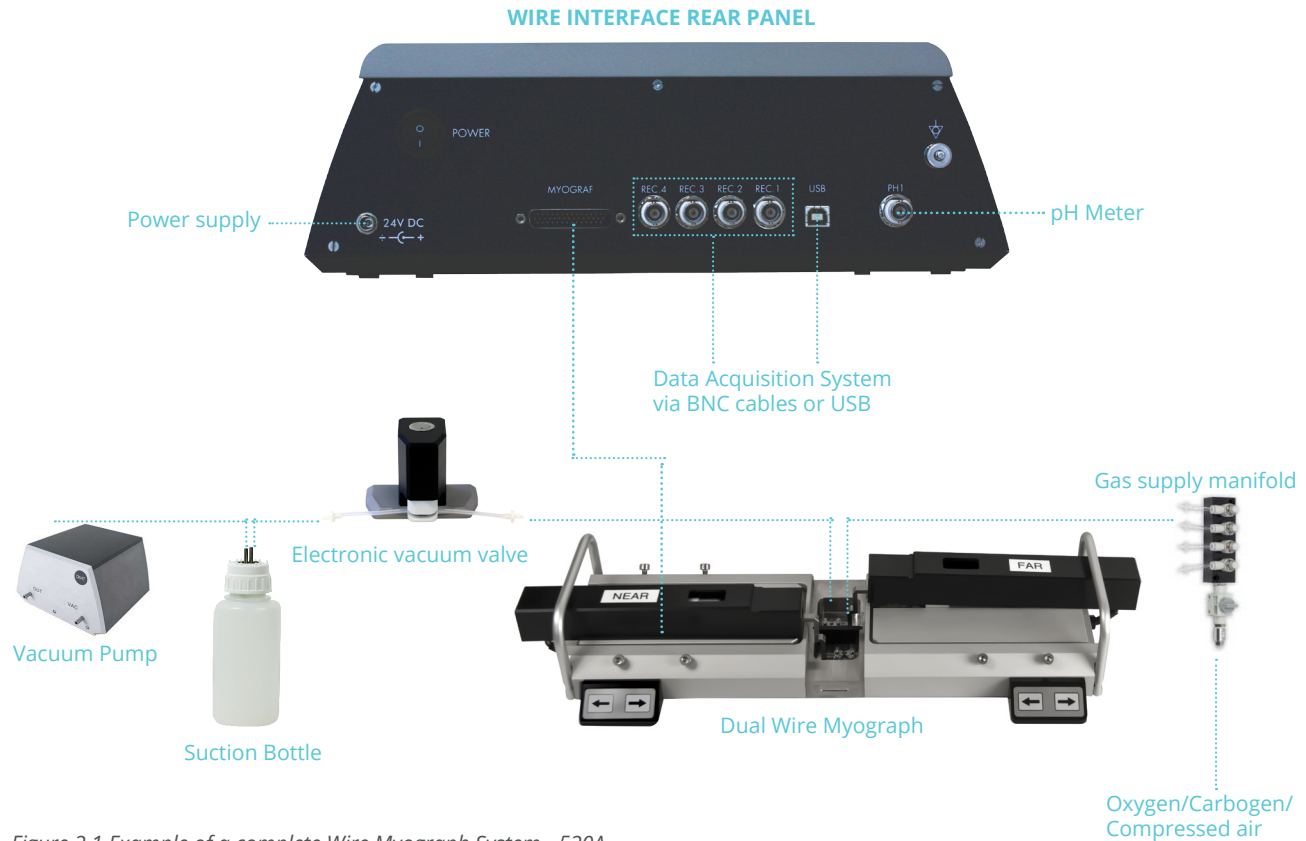
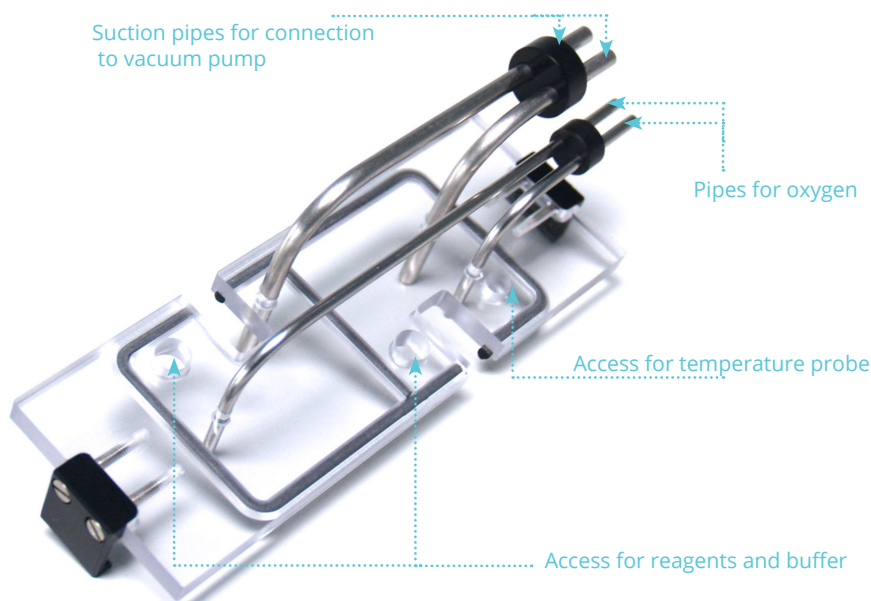

Figure 2.1 Example of a complete Wire Myograph System - 520A
Figure 2.2 Chamber cover for Wire Myograph 520A
Figure 2.1 is a complete set-up for the Wire Myograph System - 520A. The set-up includes optional equipment such as pH electrode for measuring pH in the buffer, an electronic vacuum valve, suction bottle, vacuum pump, and a computer and Data Acquisition System.
4. Gas supply: Connect the pipes for gas supply on the Wire Myograph chamber cover (see figure 2.2) to an adjustable gas supply using thin silicone tubing.
5. Suction connection: Connect the suction pipes on the Wire Myograph chamber cover (see figure 2.2) to a vacuum pump via a suction bottle and the electronic vacuum valve as illustrated in figure 2.1.